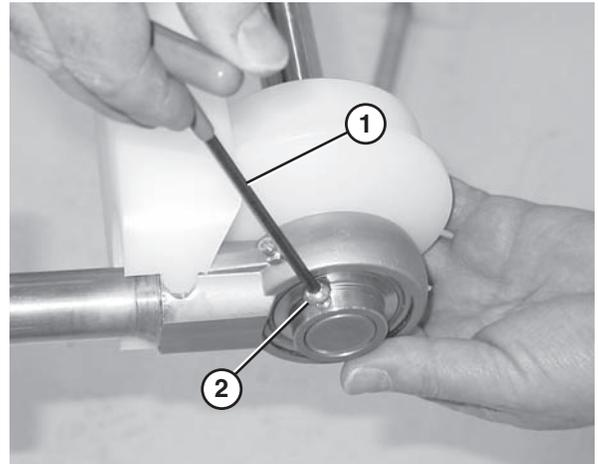

Figure 77
5. Use a hex wrench (**Figure 77, item 1**) to tighten the bearing shaft fasteners (**Figure 77, item 2**) to 54 in•lbs (6 N•m). Check after 24 hours of conveyor use.